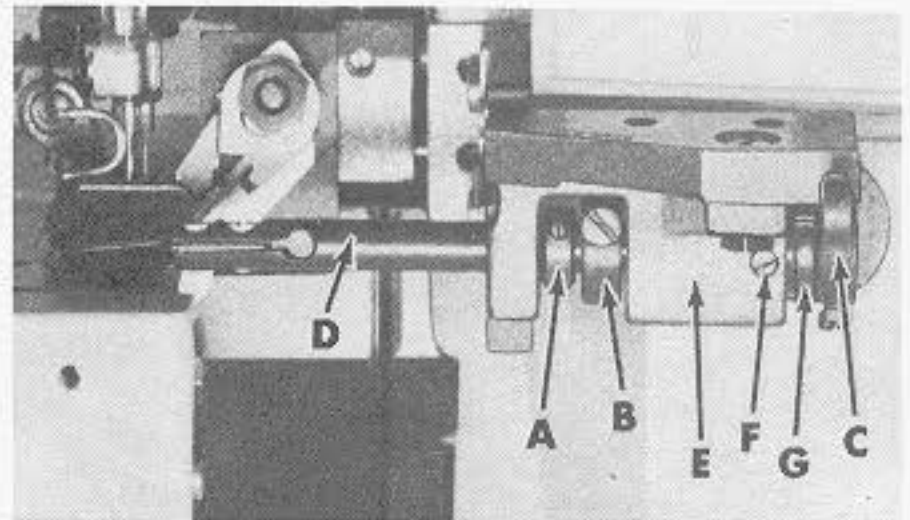

Fig. 23
dog passes the end of the pressure plate at the rear of the feeding cycle. Adjustment can be made by loosening screws (B) allowing forward or rearward movement of pressure plate (A). Additional adjustment can be obtained by loosening screws (C) and moving mounting bracket (D). Lateral adjustment can be accomplished by loosening screws in collar (A, Fig. 23), actuating collar (B) and operating lever (C), allowing movement of pressure plate shaft (D). Align the presser foot to the throat plate needle holes and flat on the throat plate.